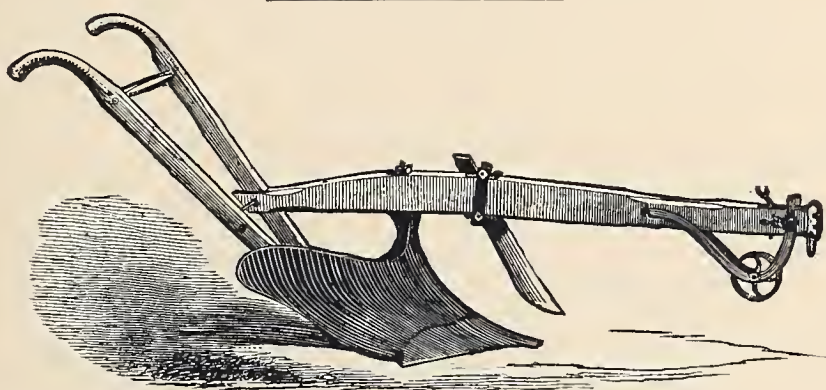

Fig. 280. — Eagle Plow, No. 36.
*Eagle Plow, No. 36*, represented by *Fig. 280*, is a light sod-plow of easy draft for two horses or cattle. In certain markets it has become extremely popular, and large numbers are sold. It is usually trimmed with wheel and cutter.